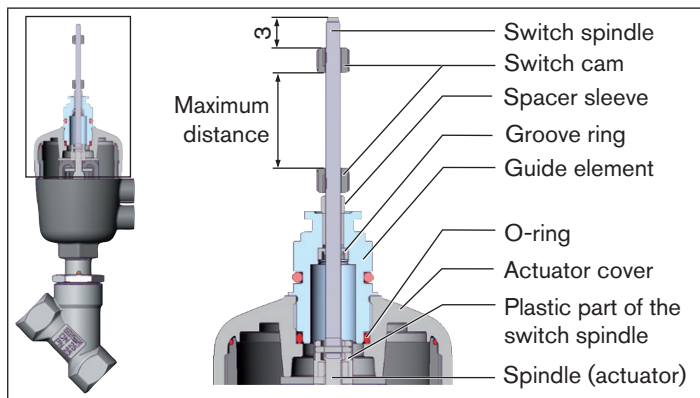

Fig. 11: Installation of the switch spindle (2), series 20xx
- Press the O-ring downwards into the cover of the actuator (see "Fig. 11").
Ensure that the distance between both switch cams is maximum (see "Fig. 11").